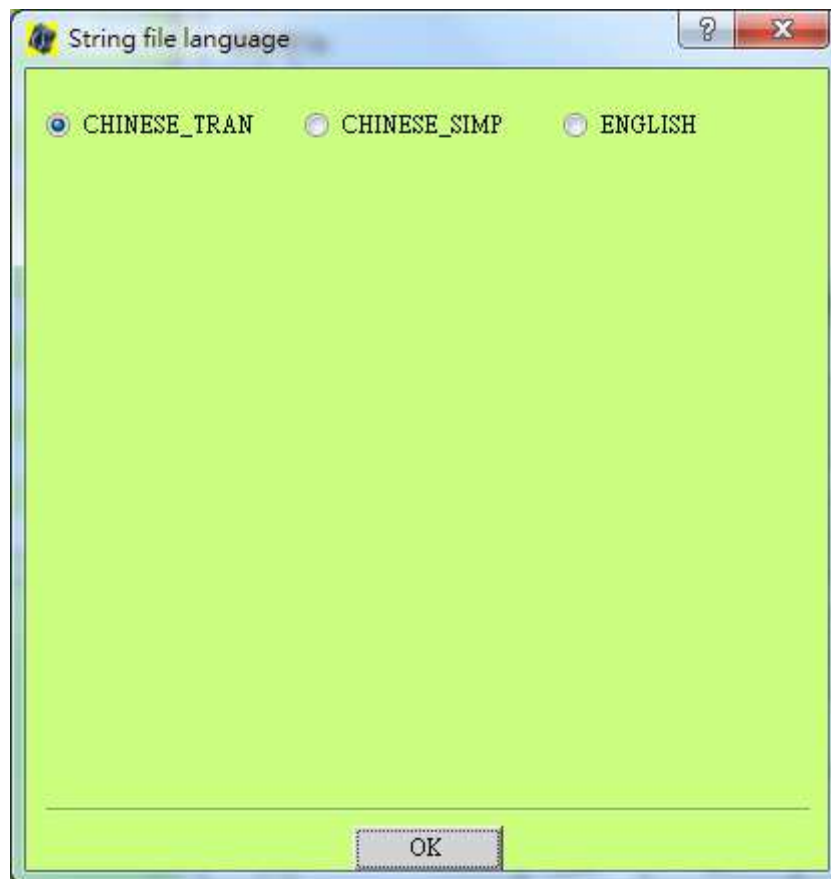

Fig. 5 Select the Language of Address Symbol/Comment
- Select the language for address symbol/comment editing in the session as Fig. 5. There are already address symbol/comment string files for Traditional Chinese, Simplified Chinese and English. in this example.